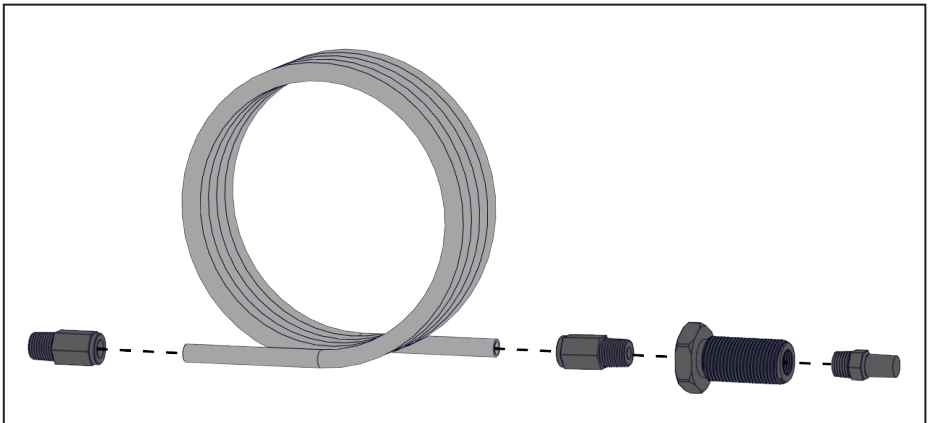

Figure 27 — Tubing Installation Remote Blowdown Muffler assembly
- Install the tube into the push-to-connect bulkhead fitting (Figure 27)